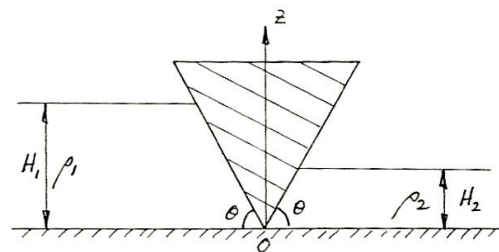

Figure P2.43
2.43 A symmetrical, triangular prism of uniform composition and width w is balanced vertically on its apex as shown in Figure P2.43. A fluid of depth H_1 and density ρ_1 acts on the left hand side, while a fluid of depth H_2 and density ρ_2 acts on the right hand side. Find the ratio of the densities in terms of the ratio of the depths. Show all your working, and state all your assumptions.